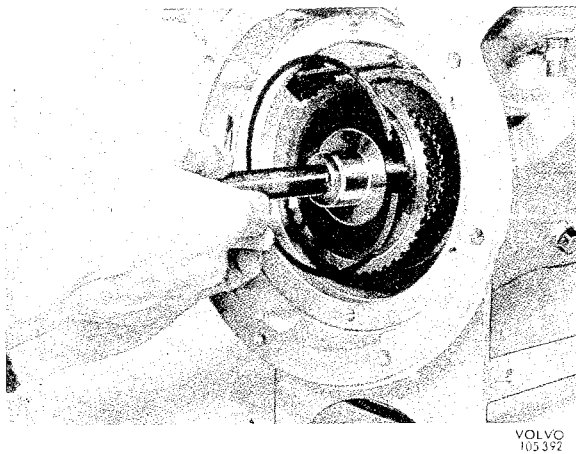

Fig. 4-109. Installation sequence, front clutch snap ring, input shaft and thrust washer
18. Fit the pressure plate, inner and outer plates, and hub. Fit the thrust washer for the clutch hub and input shaft into the front clutch, see Fig. 4-109. Fit the snap ring.